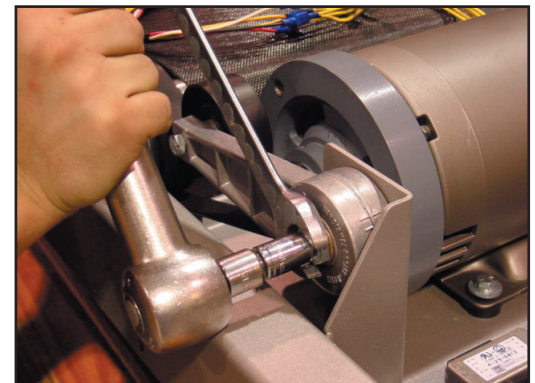

Figure 17
- 4.6 Place a 9/16 socket on the mounting bolt and turn clockwise to tighten the bolt (see Figure 17).